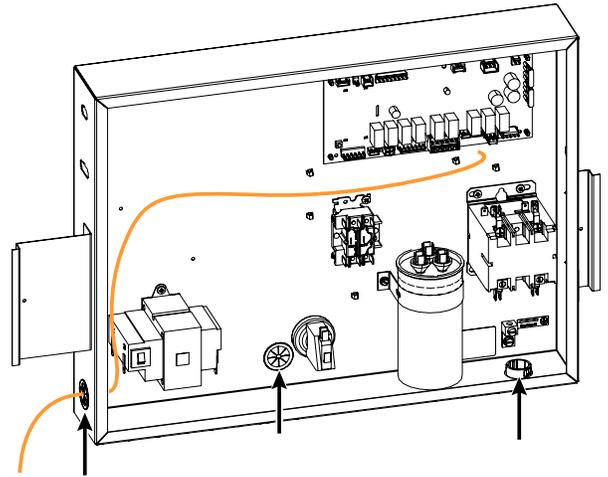

Figure 130. Grommets in Control Box
- Use the grommets in the control box to run wires from inside the corner post to the inside of the box, up to the control board terminal(s). See Figure 130.